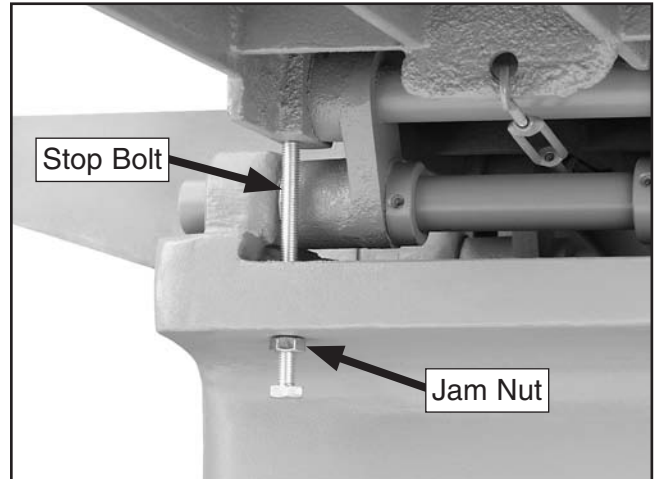

Figure 17. Infeed table stop bolt (viewed from underneath the table).
8. Loosen the jam nut (see **Figure 17**) on the infeed stop bolt, then unthread the stop bolt until the distance from the top of the bolt and the bottom of the infeed table is the same as the maximum depth of cut specified for your jointer (refer to the **Model Specification Comparison** chart for your model on **Page 5**).